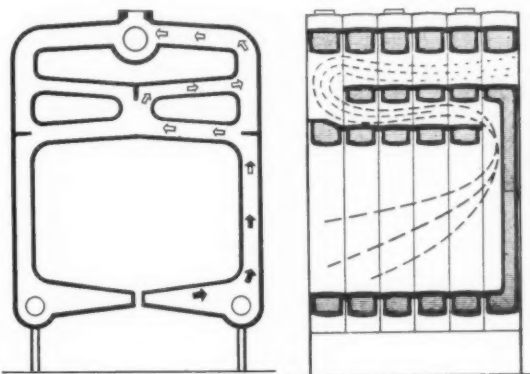

Fig. 6. Left, cross section and, right, part long section through a cast iron sectional boiler.
1. *Cast-iron sectional boilers.* This is the commonest type used in this country for medium-sized installations (see Fig. 6). In many cases they are also used to provide hot water services through an indirect cylinder, although where the hot water demand is small compared to the space heating demand this will mean running the boiler at low rates and poor efficiencies during the summer season. It is doubtful if the saving in space and capital cost makes up for the lack of efficiency during partial use and in these cases separate boilers are preferable. It is also probable that peak hot water demand will at times coincide with peak heating demand. This is often the case in the early evening in the more expensive urban flat blocks and on Monday mornings in working-class flats.